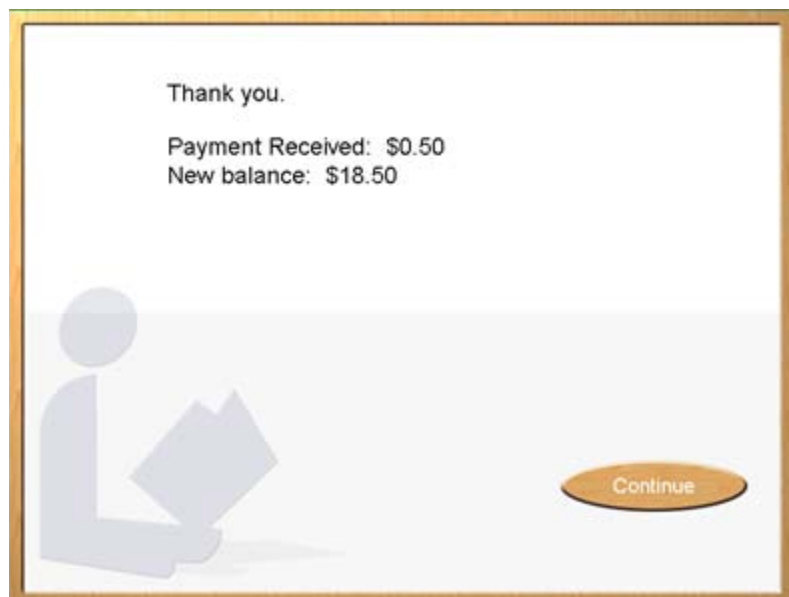

Figure 11.2 Payment confirmation message
- 2 Touch **Pay Fees** to pay the fee. Touch **Cancel** to cancel the transaction. If you pay the fee, a confirmation message displays, showing your new account balance (Figure 11.2).